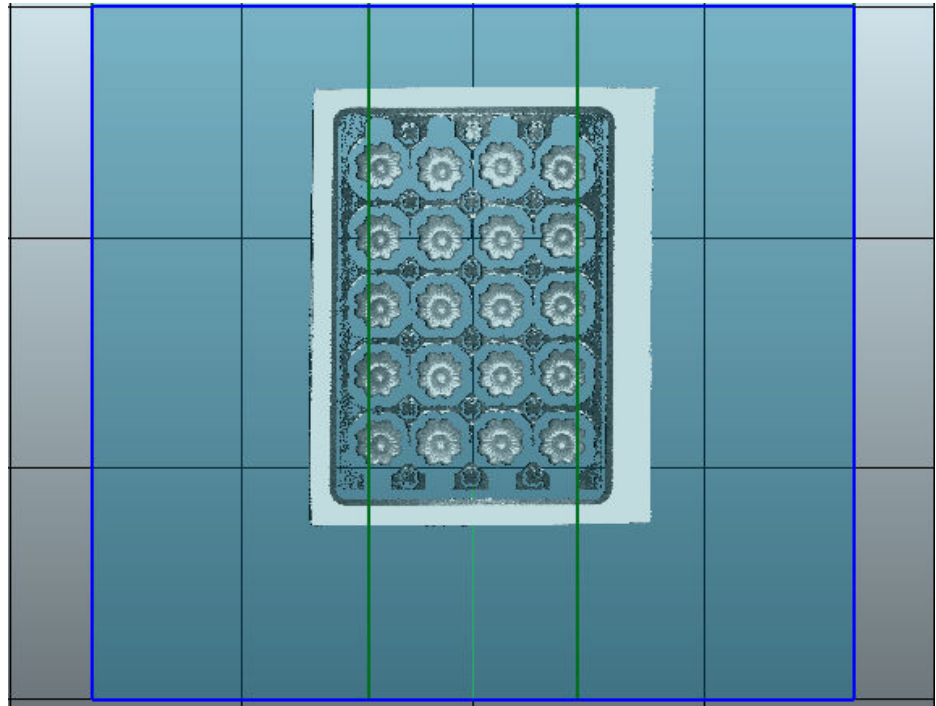

Figure 36: TriSpector1030 emulator image
2. Go to the **Image** workflow step and check that chocolate box images are displayed in the image area according to figure 36.